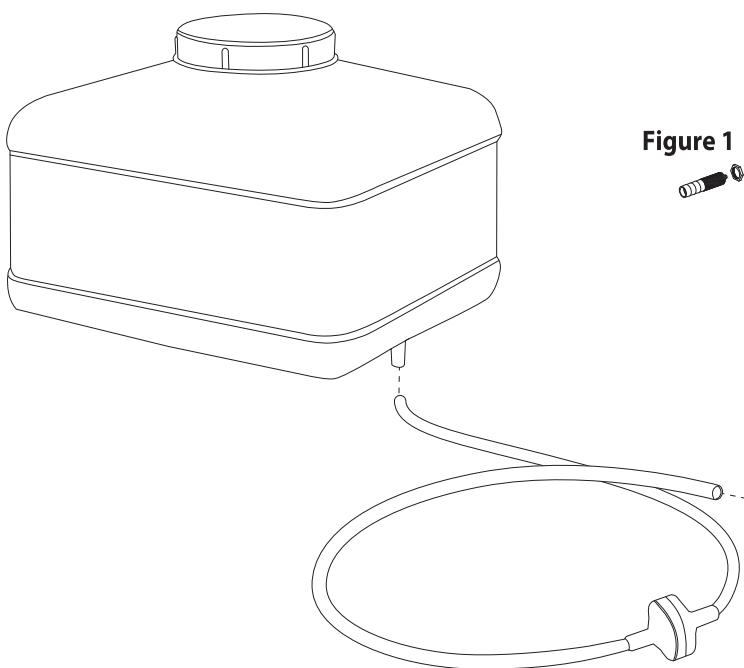

Figure 2
8. Connect the inline filter to the hose by making a cut anywhere along the hose (See Figure 2)